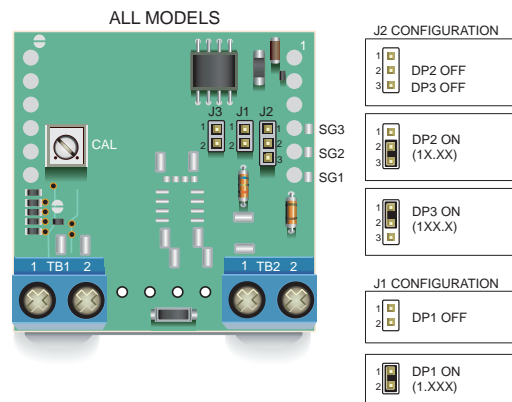

Figure 6. Decimal Point Selection Using J2 and J1 (Applies to All Models)
- 7. Decimal Point Selection:** As shown in the Ordering Information guide, DCA5-20PC ammeters are multiple input-range devices. For example, with a 50mV input, DCA5-20PC-1-DC1 models can be configured to display "5.00", "50.0, or "500" Amps by simply removing or relocating decimal-point-selector jumper J2 (see Figure 6). Decimal points serve as placeholders only; they have no affect on displayed accuracy or resolution. If jumper J2 is not available, solder gaps SG1, SG2, or SG3 can be used to select DP1 ("1.XXX"), DP2 ("1X.XX"), or DP3 ("1XX.X"), respectively.